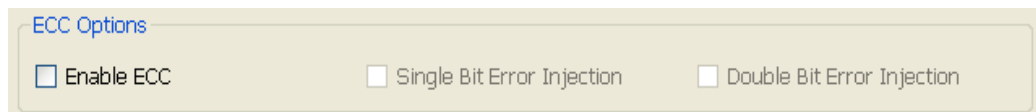

Figure 10-13: AXI4-Stream Interface FIFO: Page 4 - Error Injection Options
- Single Bit Error Injection and Double Bit Error Injection options of Native Interface FIFOs can be set using similar settings on Page 4 of the AXI4-Stream FIFO GUI, as shown in Figure 10-13.